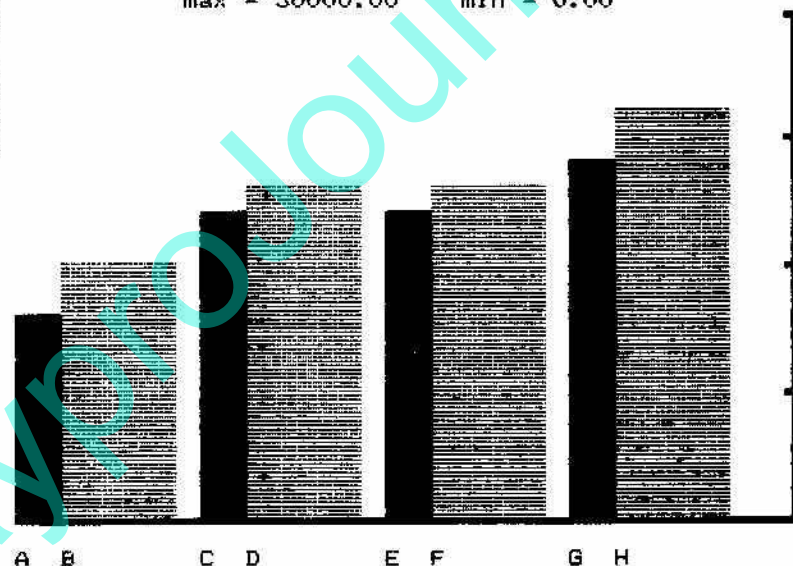

Figure 9: Final SALES Chart
Lastly, you might want to change the scaling so that the four "tick" marks on the right side vertical scale represent "round" numbers. Use the (S)cale command the set the value of MAXIMUM to 30000 which will result in scale marker values of 0, 7500, 15000, 22500 and 30000. The final chart is shown in Figure 9.